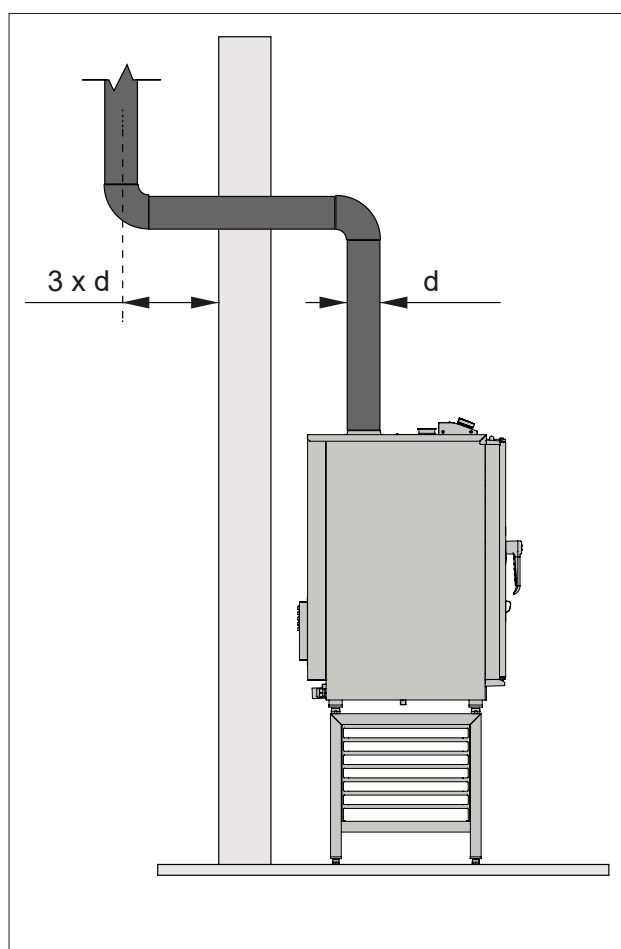

Fig. 2.1A
The gas appliances are provided with a flue for eliminating the residuals of combustion. This flue must be connected as illustrated in Figures 2.1A – 2.1B as established by the installation rules.
2.1A Natural fumes evacuation type B23: (Fig. 2.1A)